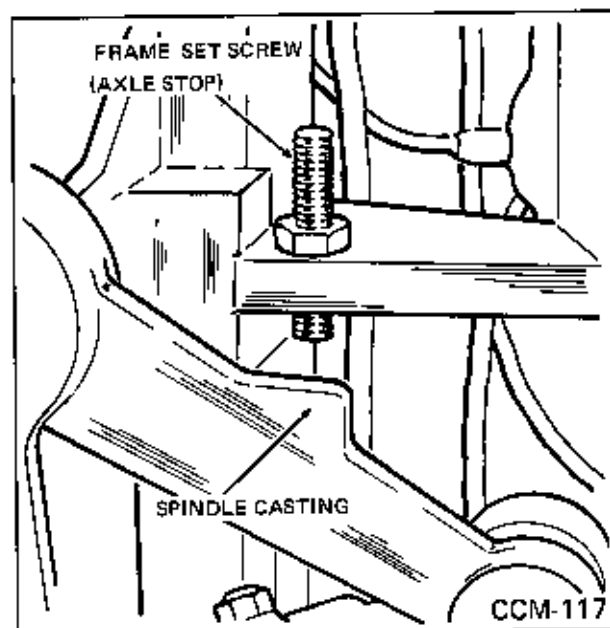
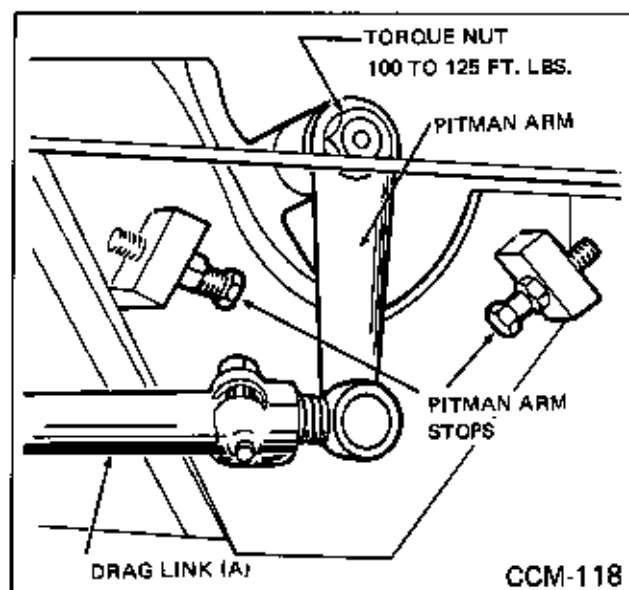

Fig. 112 Axle Stop Adjustment
Fig. 113 Pitman Arm Stop Adjustment
10. Adjust axle steering stops on underside of frame (Fig. 112) at turning angles of 22 degrees 30 minutes on the inside wheel and 27 to 28 degrees on the opposite wheel. After the correct angularity has been obtained adjust the pitman arm stops (Fig. 113) to touch the pitman arm when turning angles are obtained.